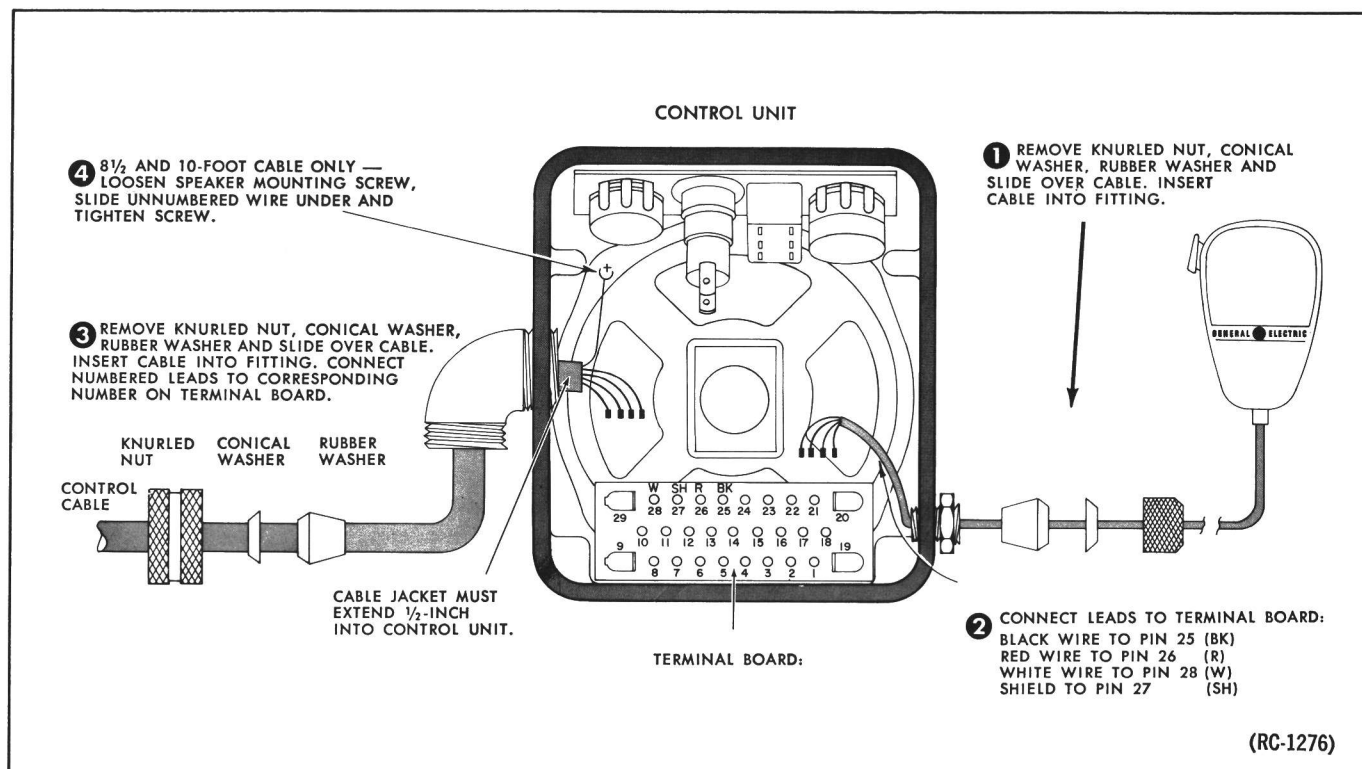

FIGURE 6 — CABLE CONNECTIONS
- e. Connect microphone and control cables to speaker/control unit as shown in Figure 6.